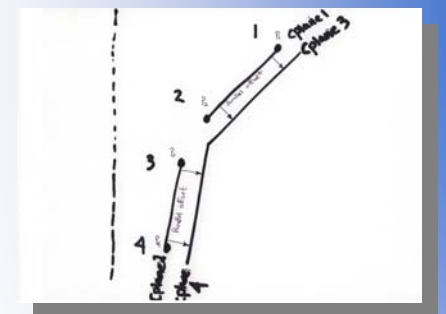

Figure 3
- Go to **Construct < Plane < Parallel**. Use Cplane1, and click on the distance button. Key in the **radius** of your ball probe as a negative number. Be careful to check the direction of the offset plane using the graphics. You might have to use a positive number for the offset. This results in Cplane3, Cplane4. The display screen should look like Figure 3.